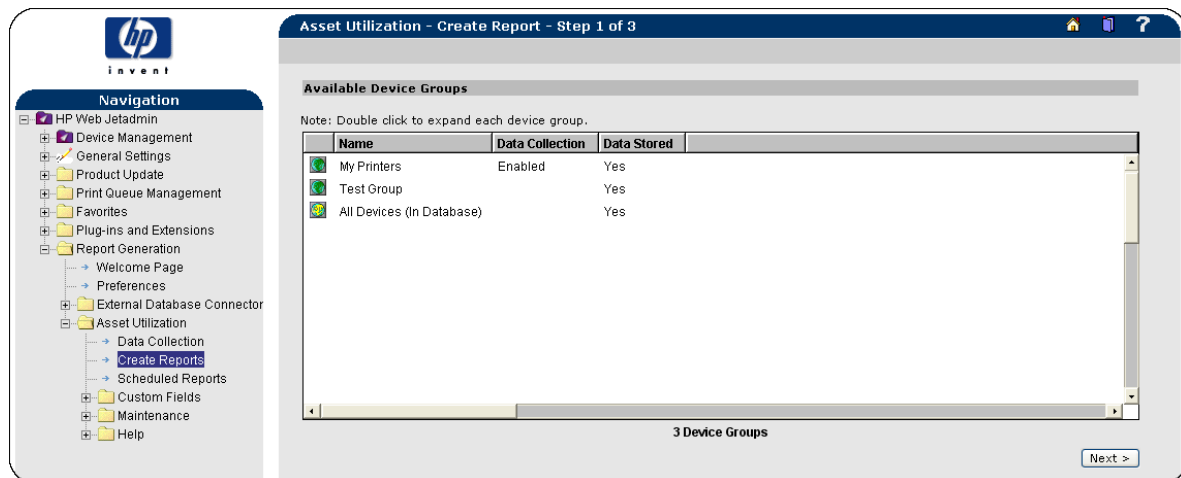

Figure 11. Create Reports
3. Under Asset Utilization, click Create Reports. This will display the Available Device Groups page, showing All Devices and any Device Groups that have had data collected (see Figure 11).